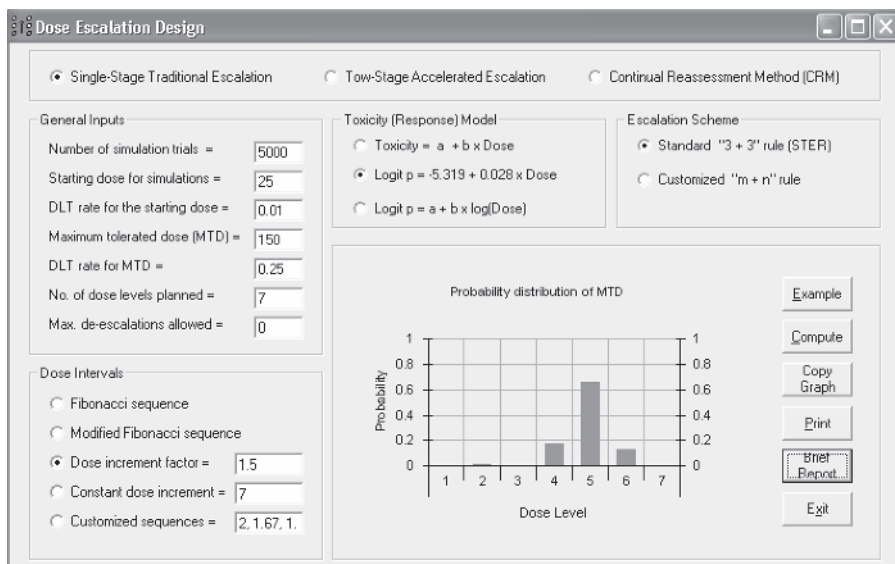

Figure 1.11 Traditional dose-escalation design window.
7. Click  to save the design specification or report, whichever is highlighted (see Figure 1.11).